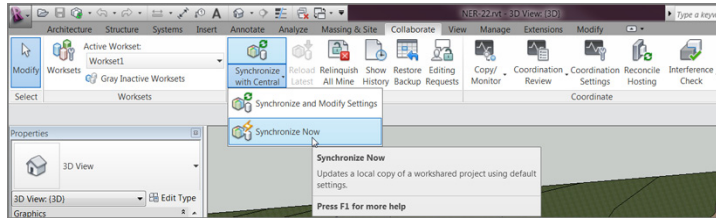

FIGURE 22.7: Choosing Synchronize Now
7. On the Collaborate tab, choose Synchronize With Central ➤ Synchronize Now, as shown in Figure 22.7. Doing so saves any changes made.